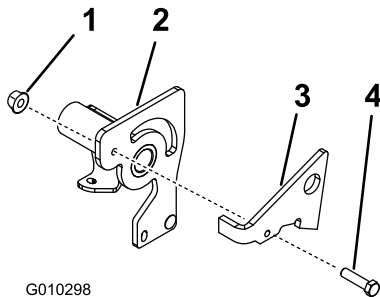

Figure 1
3. Install the bracket latch to the Z Stand hub with a bolt (3/8 x 1-1/2 inches) and a flange nut (3/8 inch) (Figure 1).
4. Tighten the nut and bolt. Then, unscrew it one full turn or until the latch will freely rotate (Figure 1).